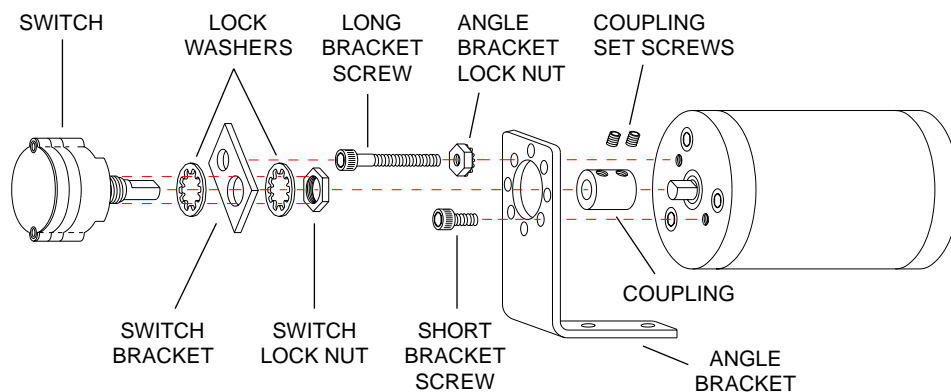

Figure 10: Switch mounting hardware
3. Make sure that the 1/2" switch lock nut which holds the switch bracket in place is tight. **(Figure 10)**
2. Reinstall the angle bracket. The shorter screw goes through the bracket hole which is roughly at 4 o'clock (as viewed in **Figure 10**), and the longer screw with the star washer and locking nut goes through the hole which is roughly at 10 o'clock. Screw the longer screw in until it bottoms out, then back it out one turn and tighten the locking nut.